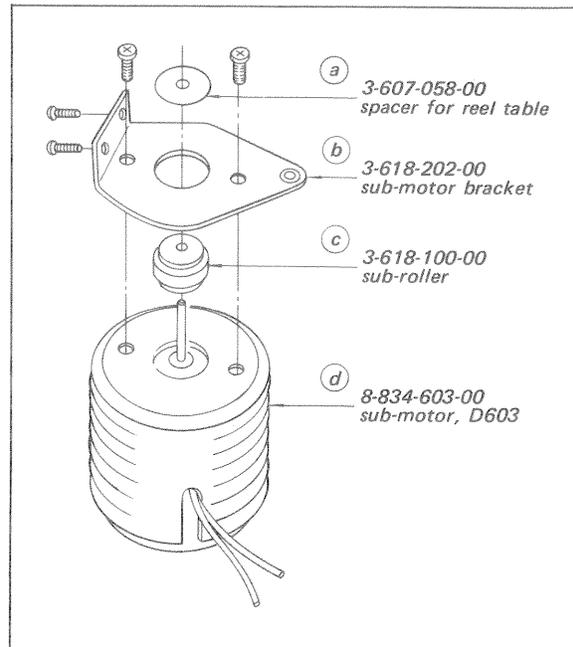

Fig. 7-23 Sub-motor assembly
5. Remove screws in Fig. 7-23 to take out the sub-motor assembly.
16. Remove (a) spacer for reel table, (b) sub-motor bracket and (c) sub-roller from sub-motor as shown in Fig. 7-23.
10. Install the spacer and the bracket shown in Fig. 7-23, and the belt.